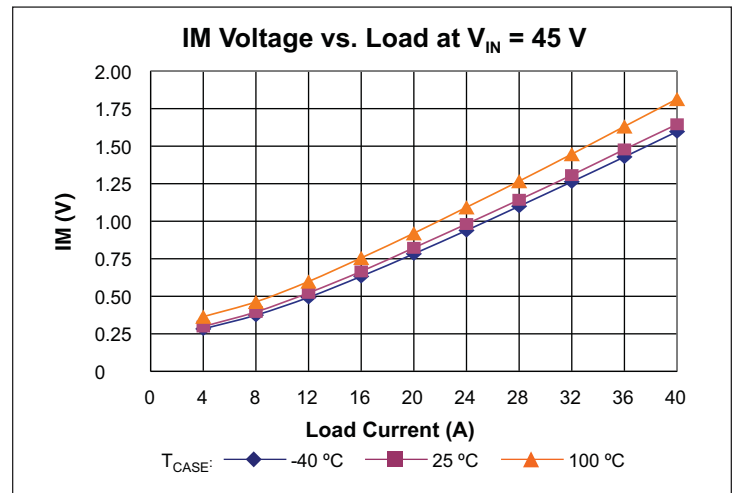

Figure 8 — IM voltage vs. load
Current Monitor (IM) pin provides a voltage proportional to the output current of the VTM module. The nominal voltage will vary between 0.3 V and 1.64 V over the output current range of the module (See Figures 8–10). The accuracy of the IM pin will be within 25% under all line and temperature conditions between 50% and 100% load.